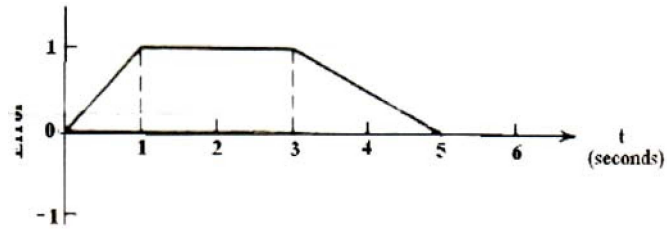

Figure 3
- Q9) a)** Figure 3 shows an error time graph. Sketch the PID controller (series form) output w.r.t. time. Assume $K_p=10$, $K_i = 2$, $K_D = 0.5$ and $P_o=0$ i.e the controller output is zero when the error is zero. [10]